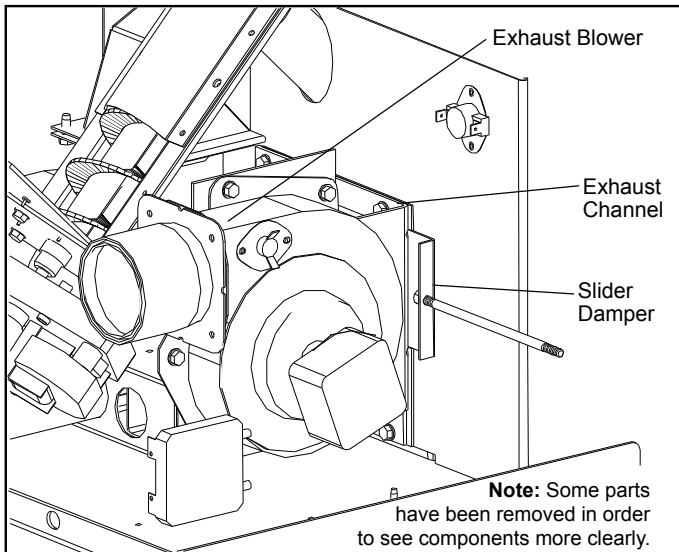

Figure 39: Slider / Damper
The slider damper is used to regulate the airflow through the pellet stove and is located behind the left cab side (refer to Figure 39). The door must be open for the cab side to be removed on all models. On freestanding model loosen the two T-20 torx screws, one above and one below hinge, swing open left panel to access. On insert model remove the two (2) T-20 torx screws on the front, one above and one below hinge, and the one T-20 at the top of the cab side under the top front.